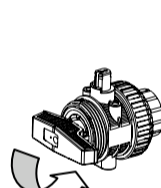

Fig.06
Dismantle the valve's union nuts (3) and remove them from their housing. Put the handle into the slot that is found in the seal carriers for this purpose (12) and turn the key anti-clockwise to tighten the O-ring and clockwise to loosen it Fig.06.